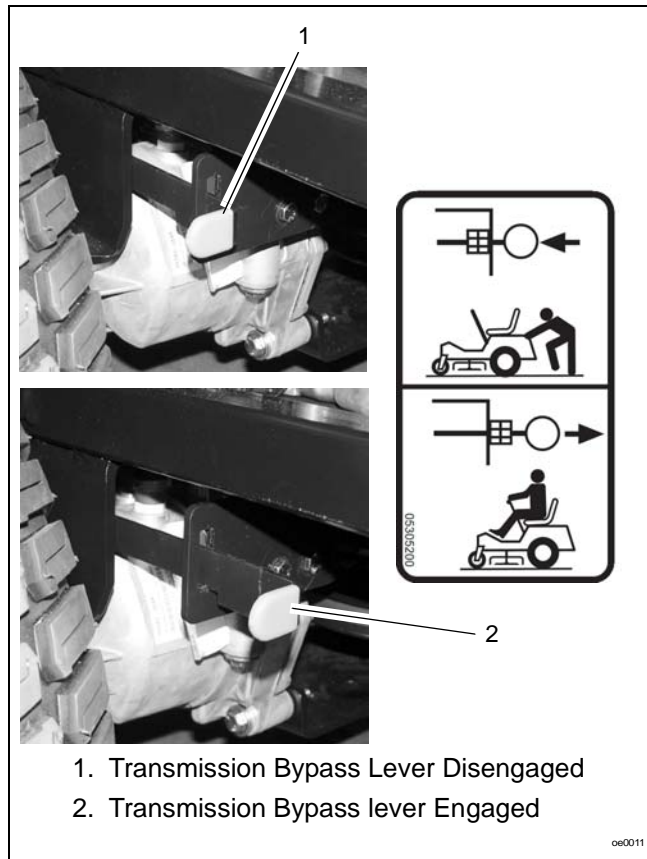

Figure 3
Disengage (1) transmission bypass levers to drive unit and engage (2) transmission bypass levers to push unit manually (Figure 3).